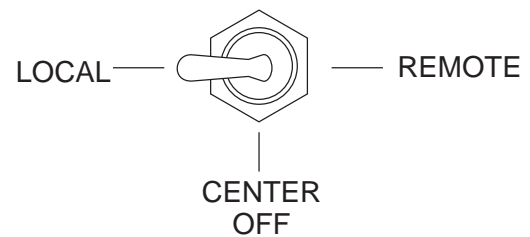

Figure 28. Pumping Control Switch (Local)
1. Place the **pumping control switch** in the **LOCAL** position (Figure 28) for normal pumping operation.
9. Place the volume control switch (Figure 28) in the increase volume position (right) to increase the volume to 25–30 strokes per minute. Slowly discharge the concrete from the ready-mix truck into the hopper and completely fill it. Keep the pump running continuously until concrete is discharging at the end of the delivery system. If the pump is stopped during this procedure, a blockage may occur.